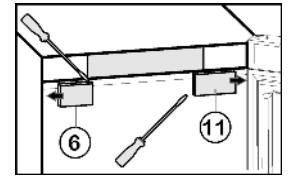

Fig. 9
- ▶ To remove the cover on the handle side Fig. 9 (6): disengage on the right using a flat-blade screwdriver and slide it outwards.
- ▶ To remove the cover on the hinge side Fig. 9 (11): disengage on the left using a flat-blade screwdriver and slide it outwards.